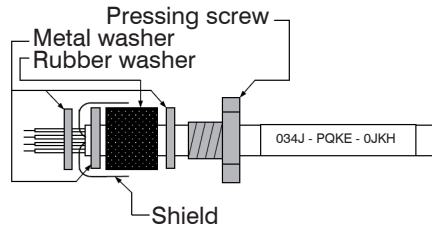

Fig. 9 Cable Assembling
- Place the pressing screw, the rubber washer and the metal washers of the cable gland one after the other onto the prepared cable end, see Fig. 9.